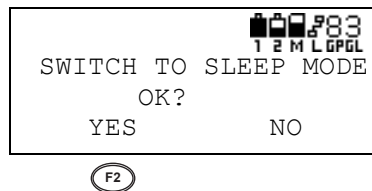

Figure 3-119. Confirm Switch to Sleep Mode
6. A message asking whether to switch to the sleep mode display. Press **F2** (YES) to enter sleep mode (Figure 3-119).